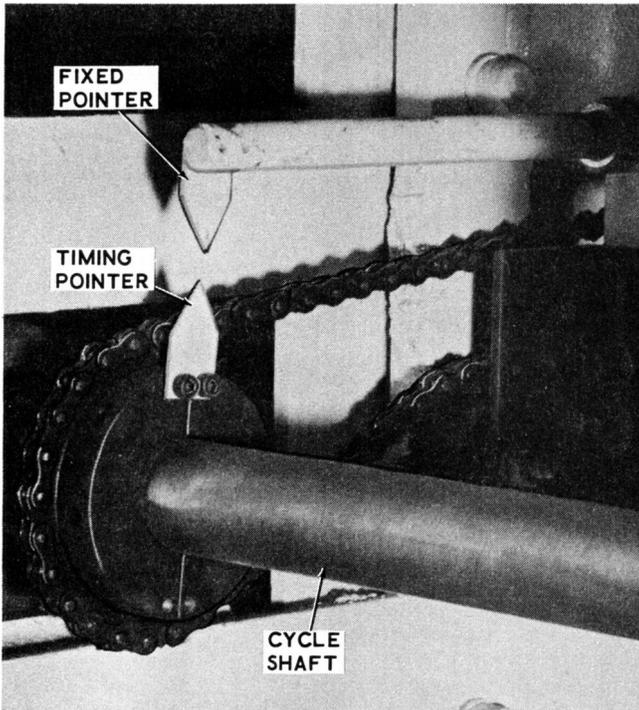

Figure 3-77. Cycle Shaft Timing Pointer
- (1) Press drive start switch and jog machine until timing pointer on sequence switch drive sprocket (on cycle shaft) is pointing directly upward (Figure 3-77) in line with the fixed pointer above it. This is the 0 degree point of the cycle shaft.